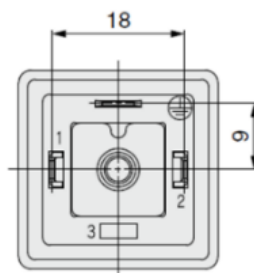

Figure 7. DIN terminal - Form A
- Tighten screws and fittings according to Figure 7.